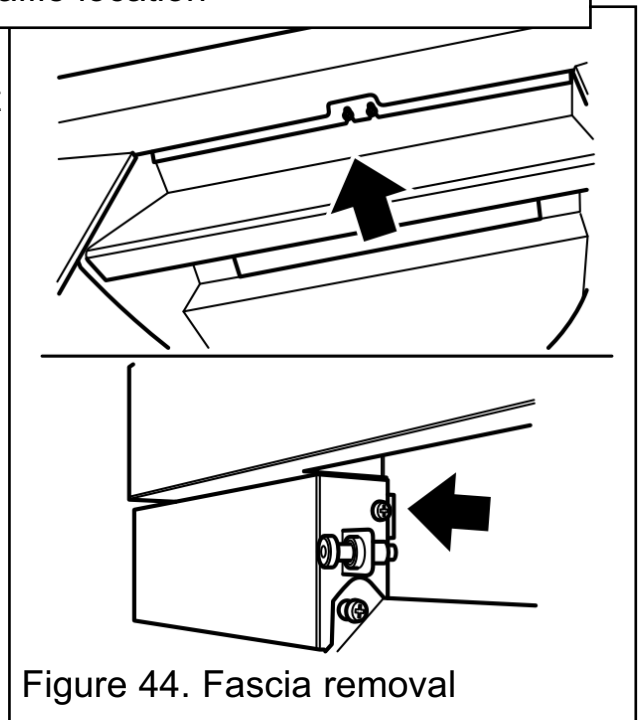

Figure 44. Fascia removal
2. Remove the two screws from the base of the fascia (See figure 44).